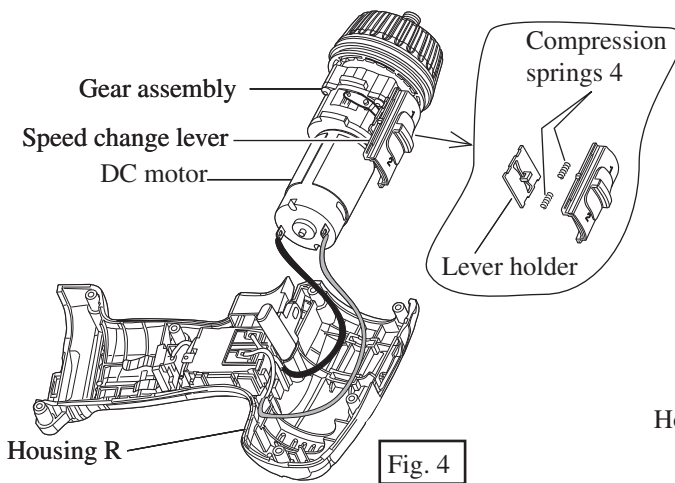

Fig. 4
- (2) Separate gear assembly, DC motor and speed change lever from housing R together. See Fig. 4.